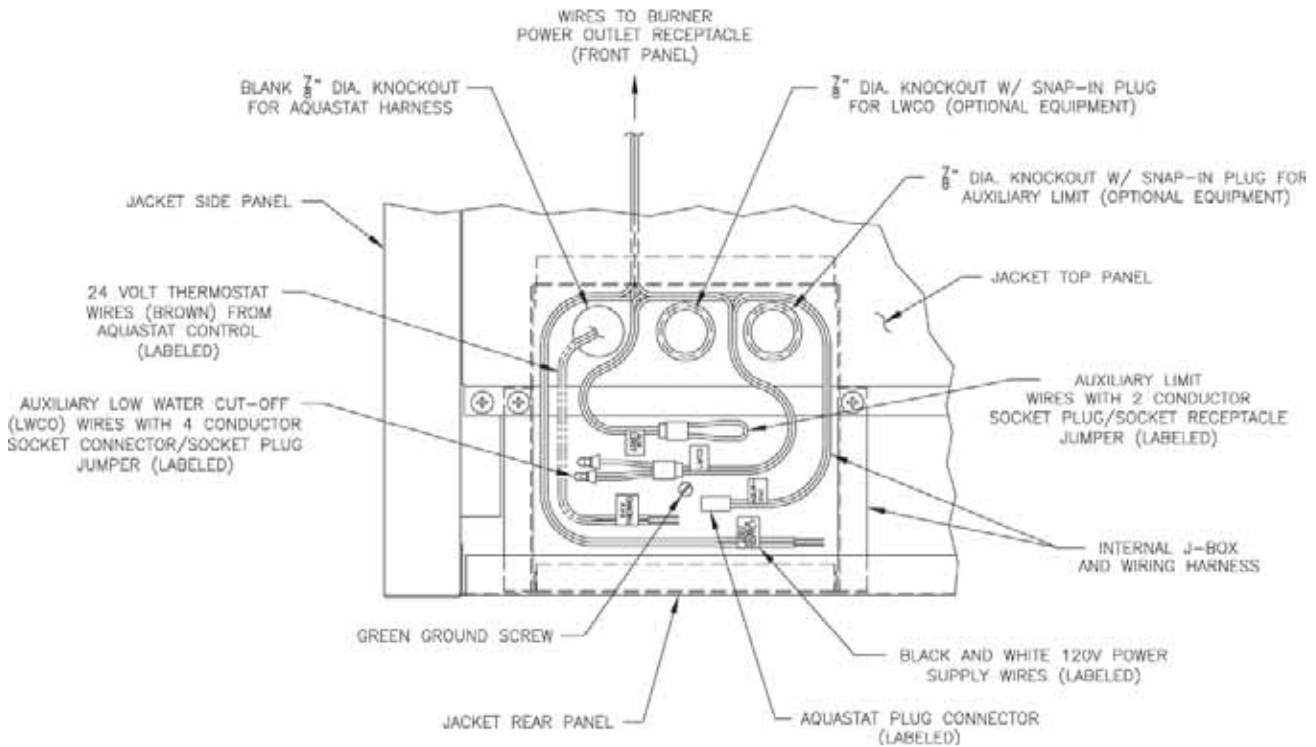

Figure 6: Internal Junction Box and Wiring Harness Details
Step f. Inside internal junction box, locate wires with mating aquastat plug connector labeled "Aquastat" (refer to Figure 6 for details of harness located inside internal junction box). Align mating halves of socket connector from aquastat control with harness plug connector. Push connectors together until snap on connector is locked in place.
Step e. Inside internal junction box, locate wires with mating LWCO socket connector labeled "LWCO" (refer to Figure 6 for details of harness located inside internal junction box). Remove the factory installed socket plug jumper from LWCO harness socket connector and discard. Align mating halves of plug connector from LWCO control with harness socket connector. Push connectors together until snap on side of connector is locked in place.
Step e. Inside internal junction box, locate wires with mating auxiliary limit socket connector labeled "Aux. Limit" (refer to Figure 6 for details of harness located inside internal junction box). Remove the factory installed socket plug jumper from harness socket connector and discard. Align mating halves of plug connector
Step b. Locate the black and white harness wires labeled "120V Power Supply" inside internal junction box, see Figure 6. Using wire nuts, connect the 120 volt power supply field wires to the harness wires. Connect the field ground wire to the green grounding screw located in bottom of internal junction, refer to Figures 6 and 34A or 34B.
Step d. Locate the two (2) brown wires labeled "24V Thermostat" inside the internal junction box, see Figure 6 (these wires originate from "T-T" terminals in aquastat control and feed into J-box through harness). Using wire nuts, connect 24 volt field thermostat wires to brown wires in J-box.